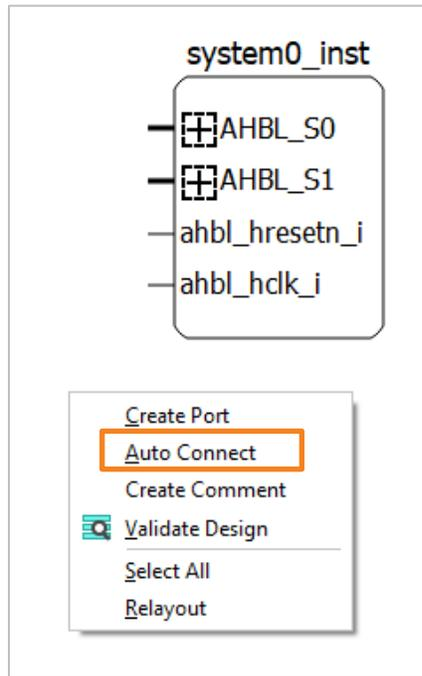

Figure 2.57. Action Menu of Right-clicking on a Blank
1. Right-click on Schematic view and choose **Auto Connect** (Figure 2.57). The Connect Ports dialog appears (Figure 2.58).